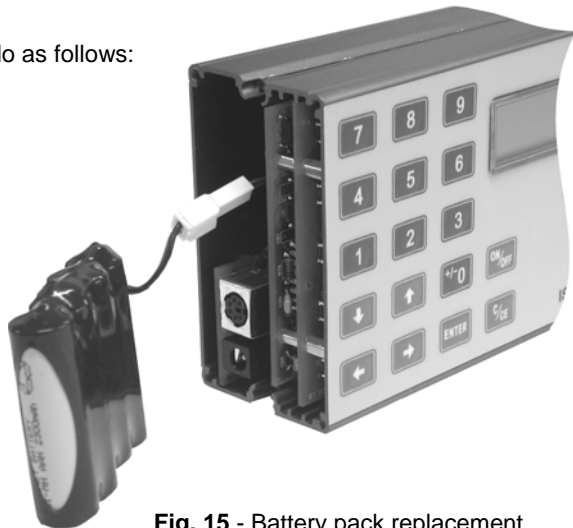

Fig. 15 - Battery pack replacement
- 3) Pull the battery pack outwards (see figure 15);